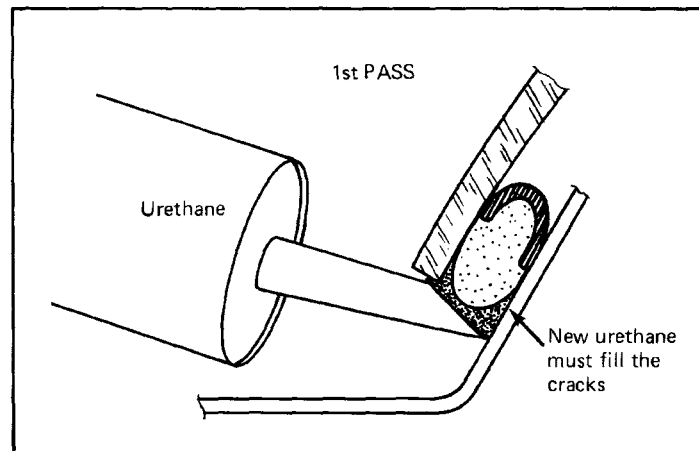

FIGURE 8
11. After the windshield is in place, apply additional **urethane adhesive** along the windshield bottom edge making sure that it fills the cracks around the original adhesive (Figure 8).